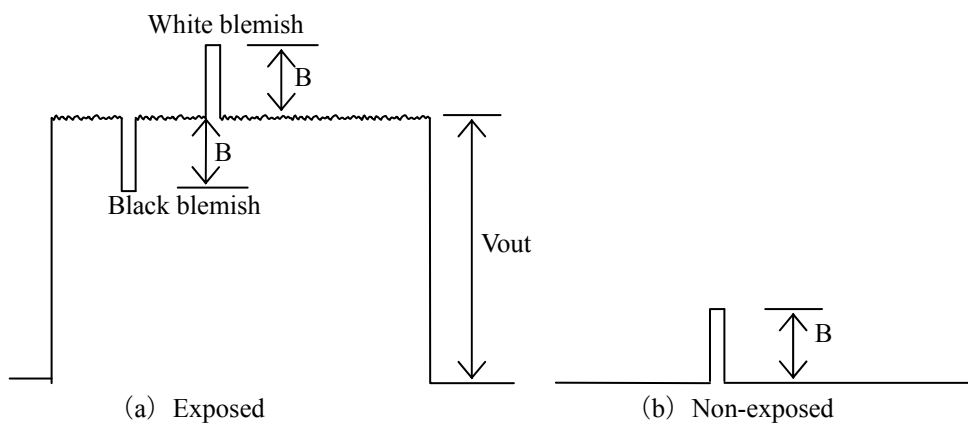
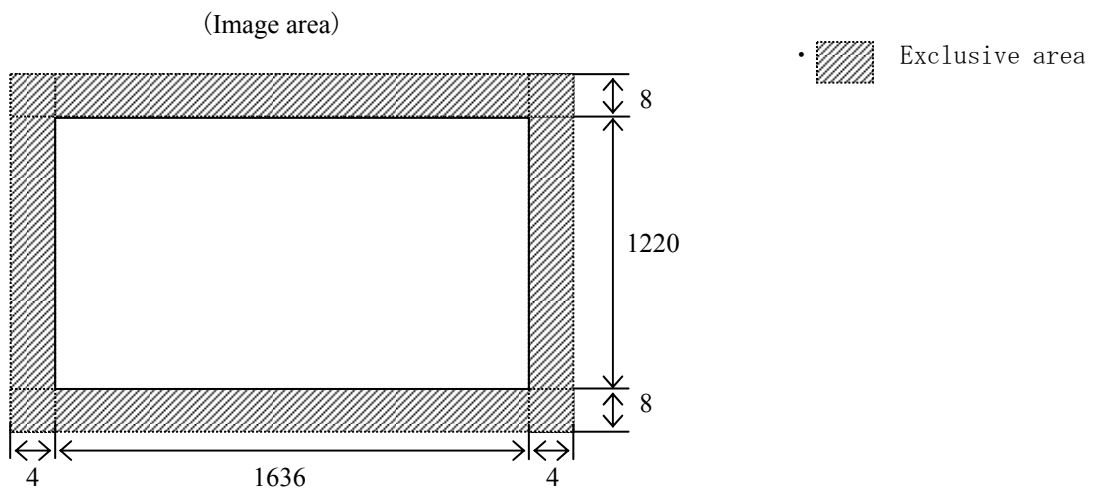

fig. 9-1 Definition of blemish level
fig. 9-2 Definition of the measuring area
| White blemish (Exposed) | $50 \leq B$ | 0 | <ul style="list-style-type: none"> • See fig.9-1 (a), fig.9-2. • $V_{out} = V_{std}$ |
| White blemish (Non-Exposed) | $100 < B$ | 0 | <ul style="list-style-type: none"> • See fig.9-1 (b), fig.9-2 • $N \leq 60$ • $M + N \leq 300$ |
| White blemish (Shutter mode) | $5.0 \leq B$ | 0 | <ul style="list-style-type: none"> • See fig.9-1 (a), fig.9-2. • $V_{out} = V_{std}/10$ • The electronic shutter speed is set at 1/10000 s |
- B : Blemish level defined in fig. 9-1.